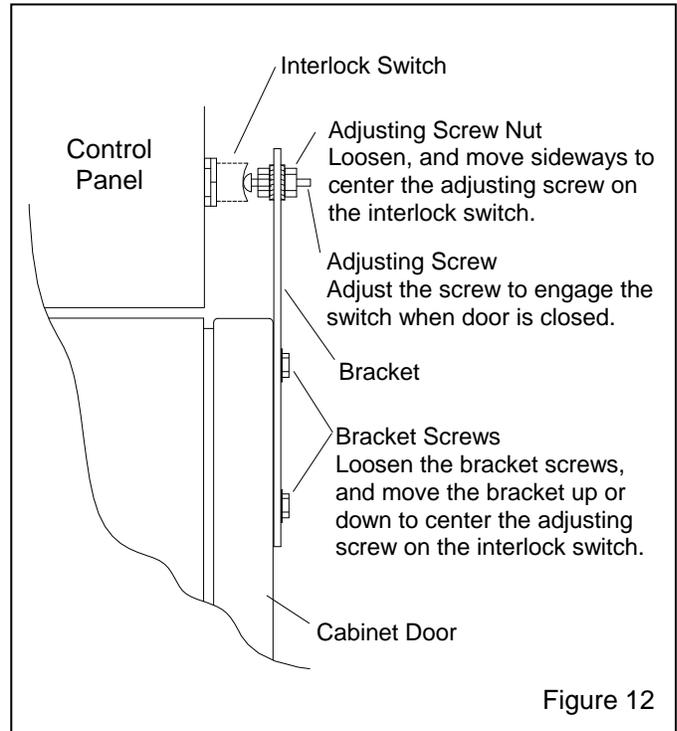

Figure 12
5.6 Door Interlocks, Figure 12